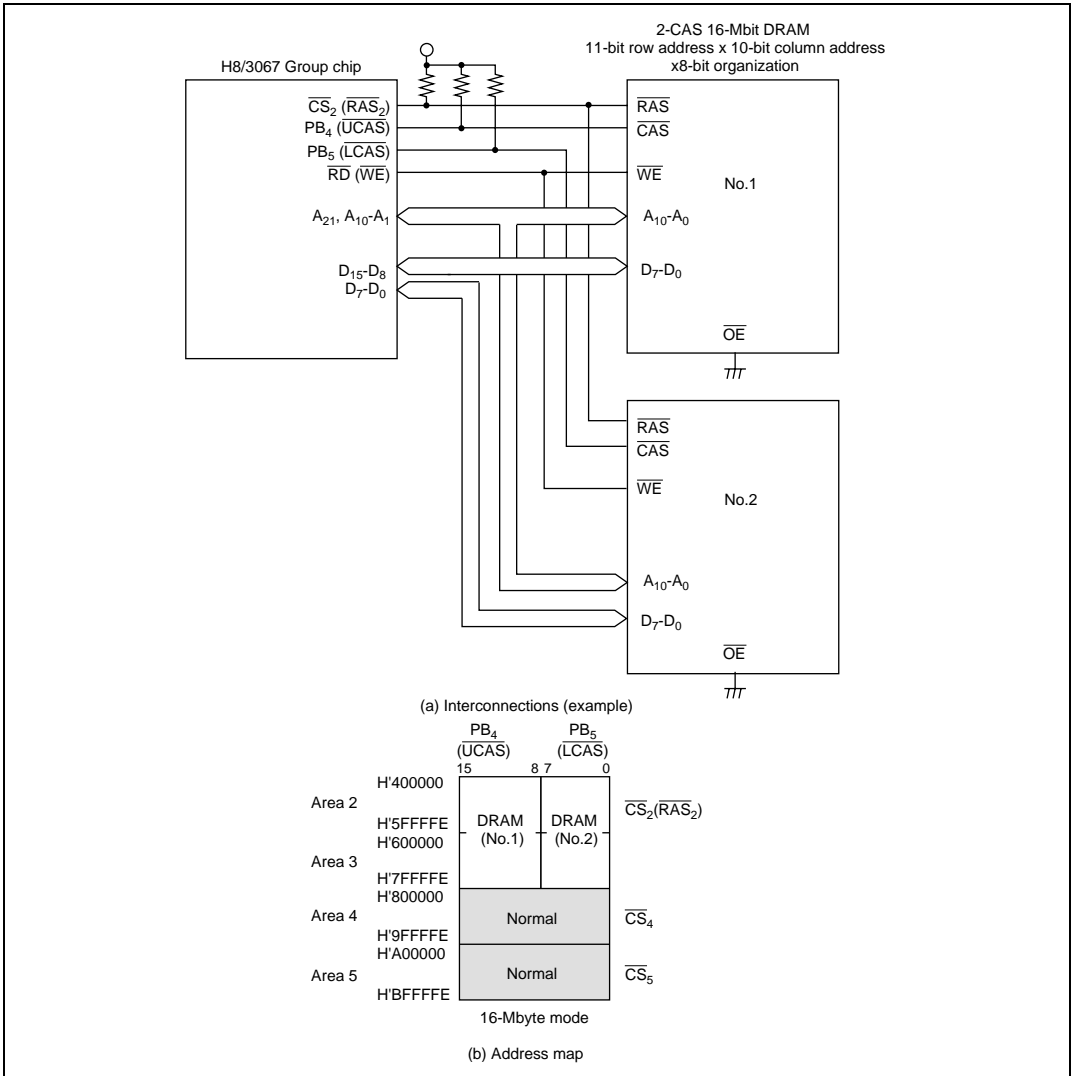

Figure 6.32 Interconnections and Address Map for 16-Mbit DRAMs with x8-Bit Organization
- Figure 6.32 shows typical interconnections when using two 16-Mbit DRAMs using a \times 8-bit organization, and the corresponding address map. The DRAMs used in this example are of the 11-bit row address \times 10-bit column address type. The \overline{CS}_2 pin is used as the common \overline{RAS} output pin for areas 2 and 3. When the DRAM address space spans a number of contiguous